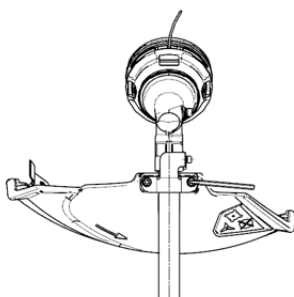

Fig.6
1. Lift the cutting head up and place it down; align the two mounting holes in the guard with the two mounting holes in the base of the shaft. Make sure the inner surface of the guard faces the cutting head; use the #2 Allen wrench to secure the guard bolts in place (Fig. 6).